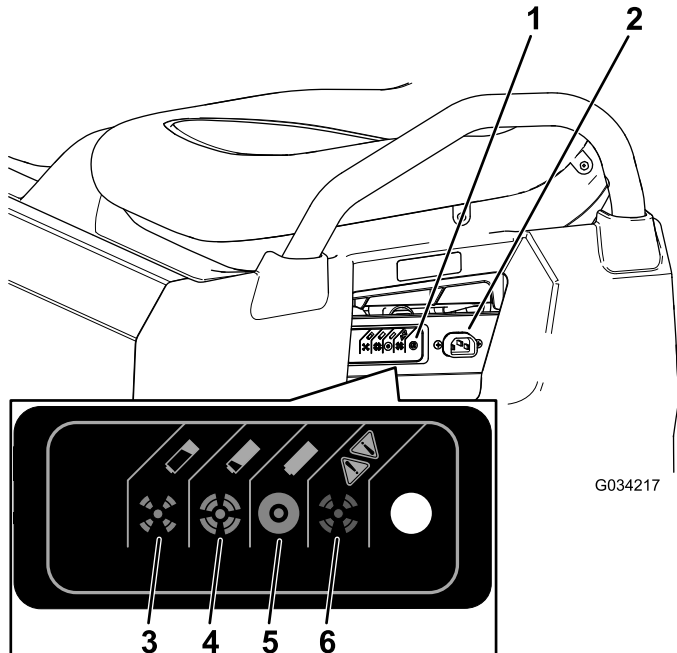

Figure 36
3. Connect a 16 gauge (or larger diameter), 2.5 m (8.2 ft) or shorter charger cord to the charging receptacle on the machine (Figure 36).
Refer to the following table and Figure 36 for information on the meanings of the varying colors of the charger-status light.